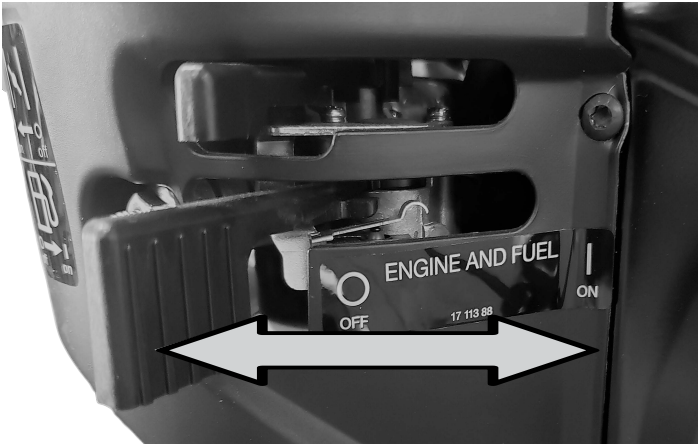

FIGURE 1
- Slide fuel valve to the “on” position. See figure 1.